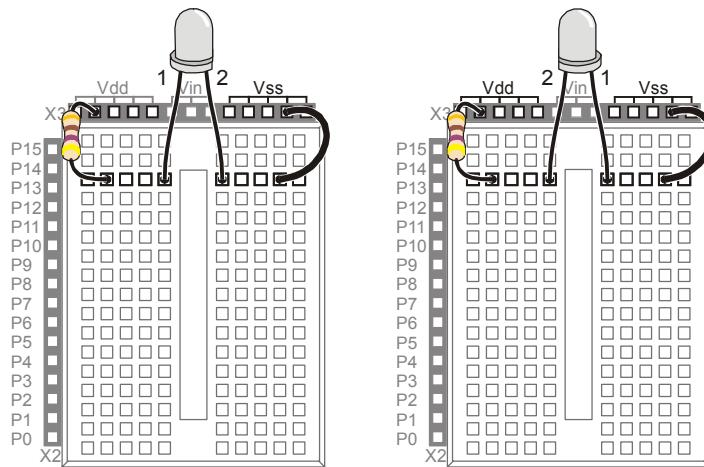

Figure 2-18
Figure 2-18 shows the manual test for the bi-color LED.
- ✓ Build the circuit shown on the left side of Figure 2-18.
- ✓ Modify your circuit so that it matches the right side of Figure 2-18.